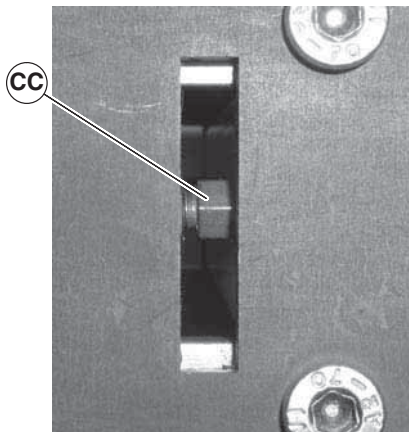

**Figure 46**
1. On the side of conveyor which the belt is tracking towards, loosen the head plate fastening screws (Figure 46, item CA).
3. Re-tighten the head plate fastening screws (Figure 46, item CA) with a 5 mm hex-key wrench to 146 in-lb (16.5 Nm).